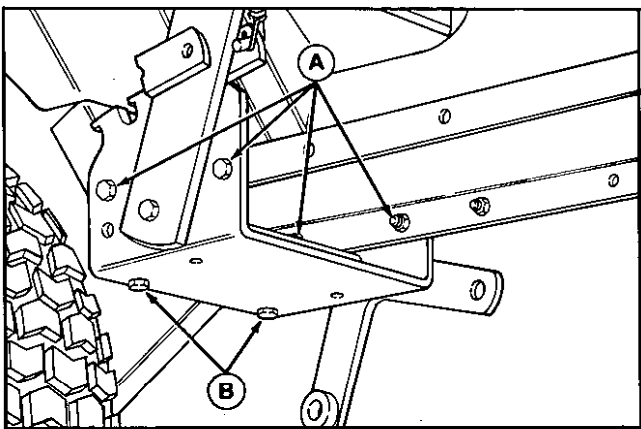

Figure 4. Manual Lift Lever
- a. Remove the two cap screws and lockwashen (B, figure 4). Leave the retaining nuts in place.
- b. Remove the lever by removing four **cap screws**, lockwashers and nuts (A). Save the hardware for reinstallation.